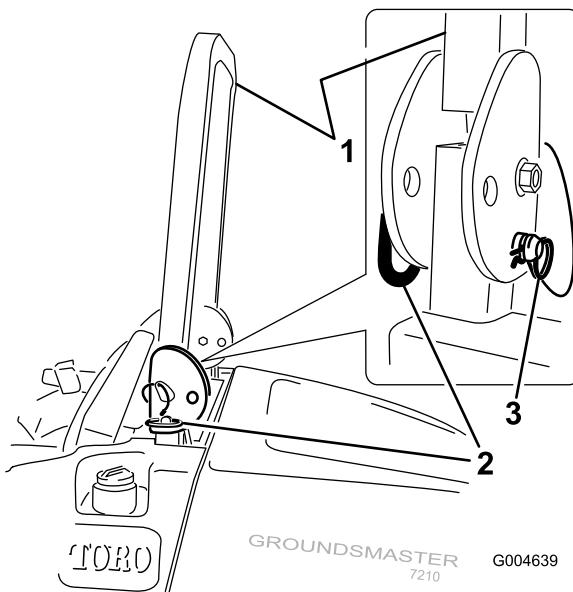

Figure 3
4. To lower the roll bar, remove the hairpin coppers, push the roll bar forward against the springs, and remove the two pins (Figure 3).
- Install the two pins and secure them with the hairpin cotter pins (Figure 3).
- To raise the roll bar, remove the hairpin cotter pins and remove the two pins (Figure 3).
- Raise the roll bar to the upright position and install the two pins and secure them with the hairpin cotter pins (Figure 3).